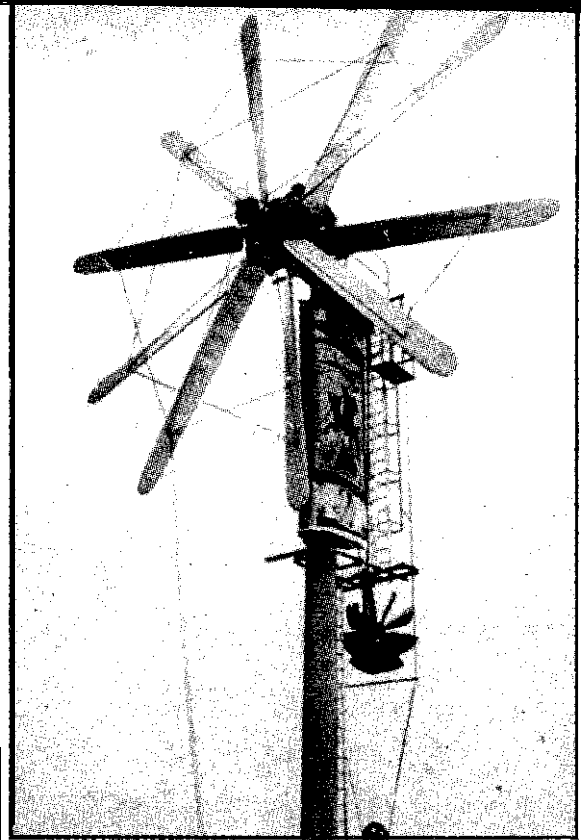

Fig 17b. German NOAH wind generator.
c) Counter-rotating wind turbine (see Fig 17a). This type of machine has two propellers turning in opposite directions, placed one in front of the other. One of the propellers is connected to the rotor, and the other to the stator in a generator. The two opposing speeds of the propellers give an equivalent generator speed of up to double that of one propeller. But one drawback is the complex nature of the transmission mechanism. A version of this type, erected on the German island of Sylt, is the NOAH windmill (see Fig 17b).